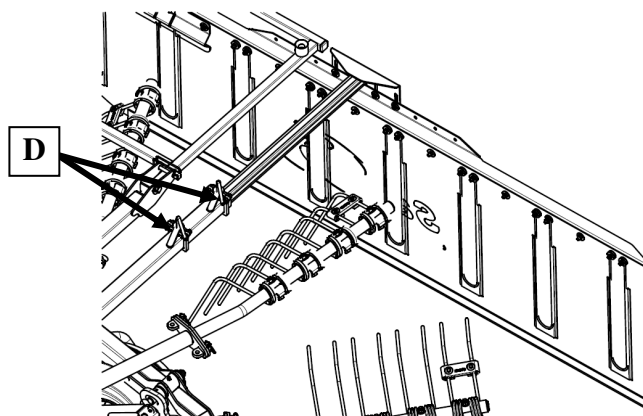

Fig. 30. Setting rear cover
- move away the rear tarpaulin cover from raking arms for a required distance, and secure against retracting with clamps (D) (Fig. 30),